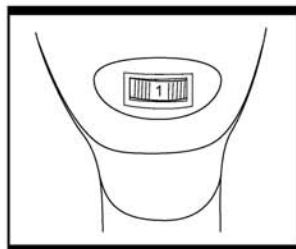

Fig. 5
(Fig. 5)
To attach the dust bag (5), align the tabs on the dust bag with the slots on the dust extraction port (7), slide fully in and rotate clockwise to keep it in position. (Fig. 5) For efficient operation, empty the dust bag (5) when it is no more than half full. This allows better airflow through the bag.